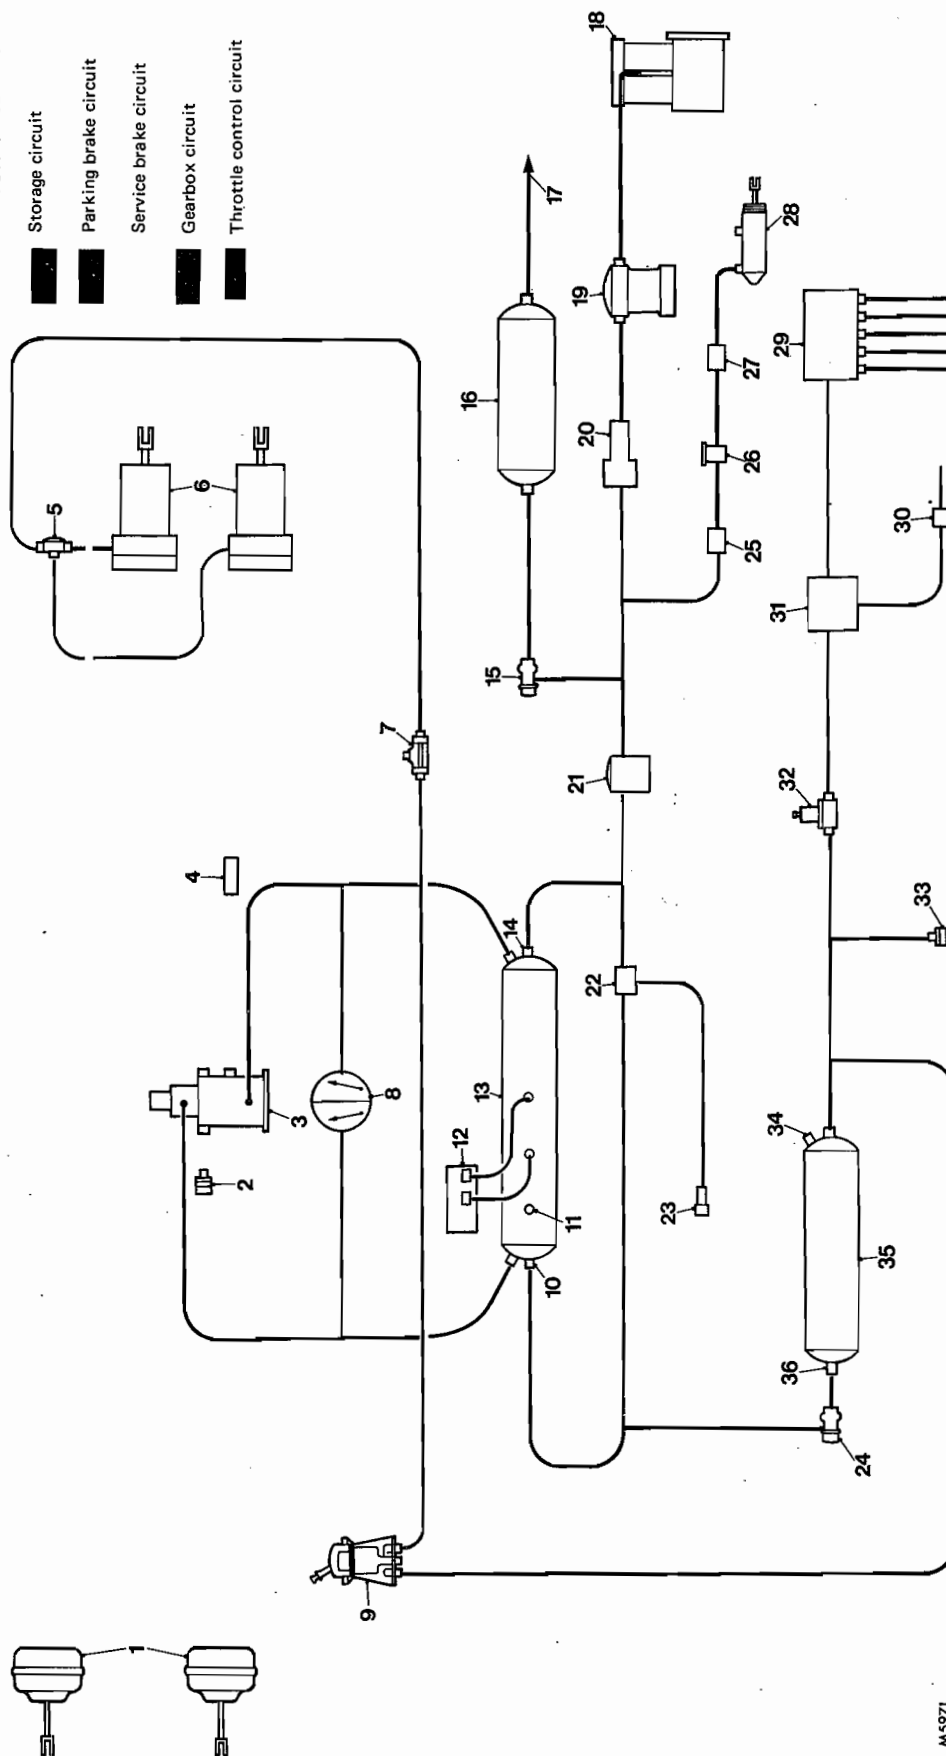

FIG. 1 DIAGRAMMATIC LAYOUT OF THE AIR SYSTEM
- | FIG. 1 | DIAGRAMMA                                |